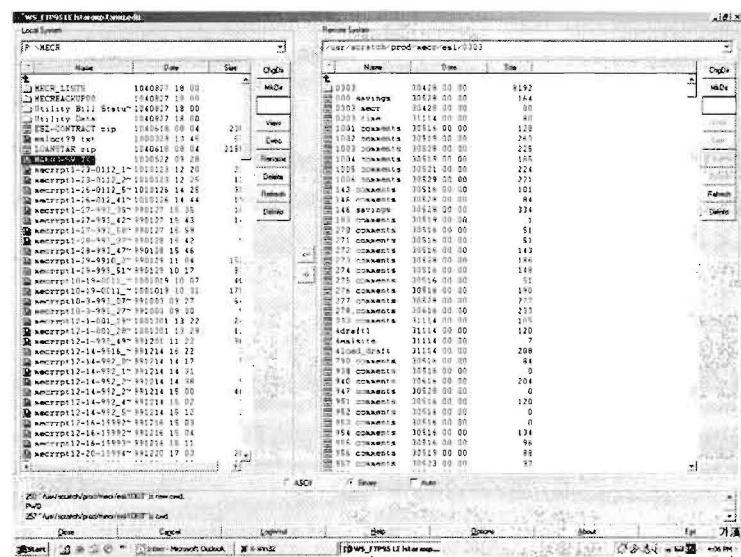

Figure 2.1 An example of FTP Program
- 2) Copy "MC-mmmyy.txt from P:/MECR/ESL_CONTRACT/ to prod/mecr/esl/mmyy and rename to MMMyy-SV.TXT using FTP (ascii mode) as shown in Figure 2.1.